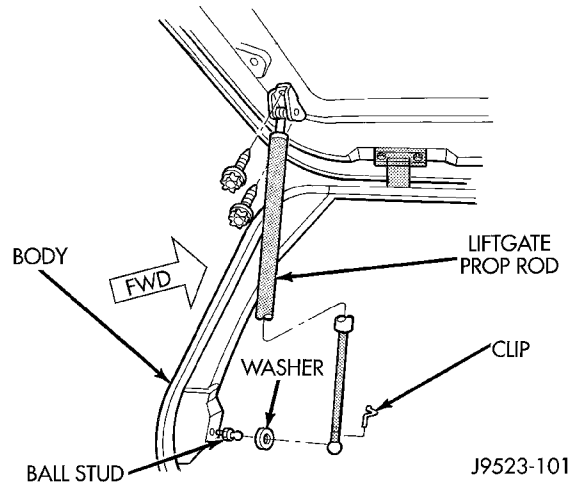
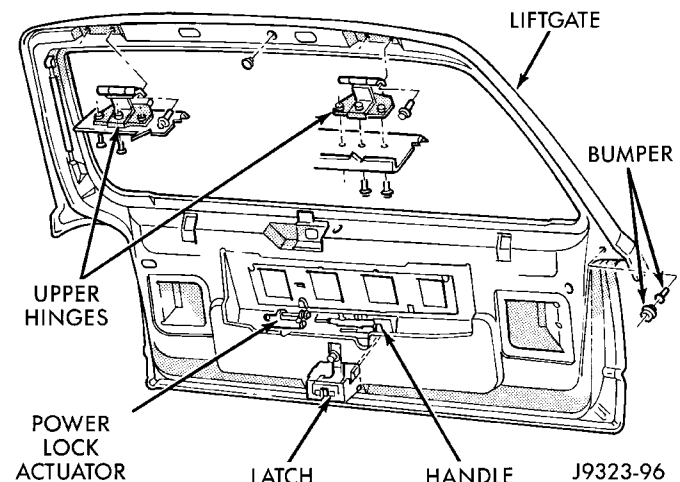

Fig. 60 Liftgate Prop Rod
Fig. 61 Liftgate Components
(1) Open liftgate. Support liftgate for ease of repair.
(2) Remove liftgate trim panel.
(3) Remove retainer clips that secure support rod cylinders to ball studs (Fig. 60).
(4) Remove support rod cylinders from ball studs.
(5) Remove upper support rod retaining screws. Remove support rods.
(6) Disconnect wire harnesses and washer hose from liftgate.
(7) Remove hinge screws at liftgate (Fig. 61).
(8) Remove liftgate from vehicle.